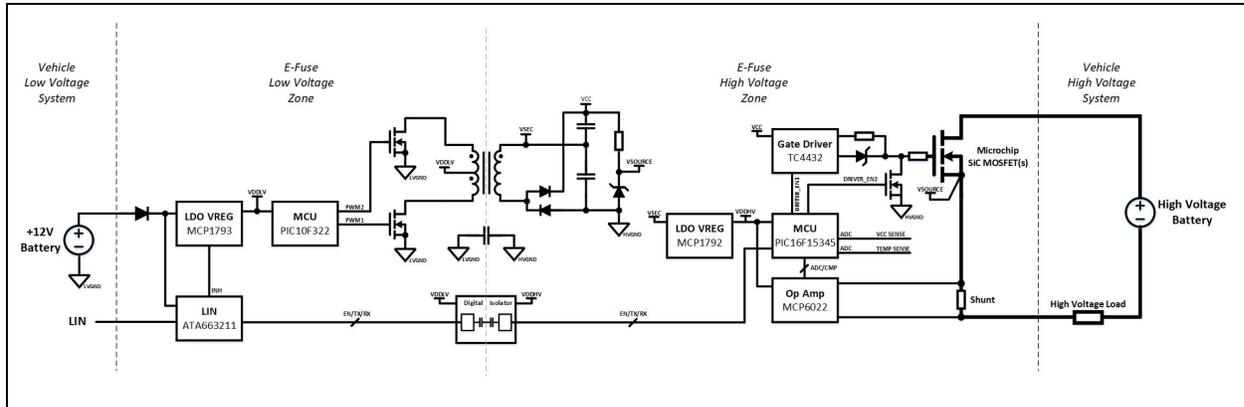

FIGURE 2-1: High-Voltage Auxiliary E-Fuse Block Diagram.
The block diagram in Figure 2-1 has the main High-Voltage Auxiliary E-Fuse circuit blocks. It is divided into two isolated zones: the low voltage (LV) zone and high voltage (HV) zone. The LV zone connects to the vehicle 12V system to power the High-Voltage Auxiliary E-Fuse and the LIN network to communicate with the vehicle controller. The HV zone has the High-Voltage Auxiliary E-Fuse microcontroller, gate drive, high voltage MOSFET(s), and protection. Because the HV zone is isolated, the High-Voltage Auxiliary E-Fuse can be connected to the system in a high-side or low-side driver configuration. Power is delivered from the LV zone to the HV zone through an isolated bias supply (push-pull converter). A digital isolator is used for transmitting the LIN transceiver signals over the isolation barrier to the High-Voltage Auxiliary E-Fuse microcontroller.